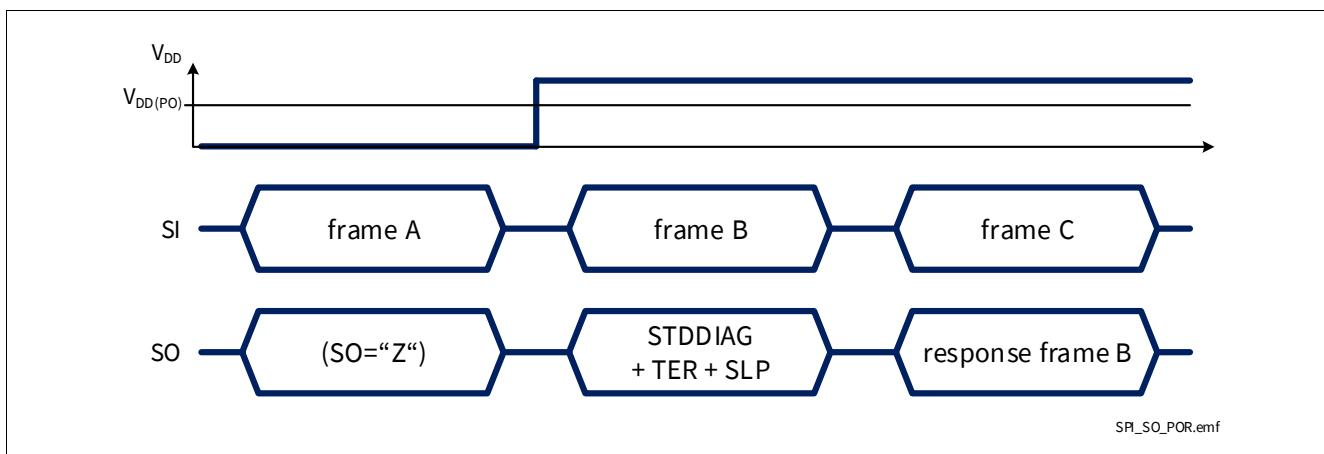

Figure 44 SPI response after coming out of Power-On reset at V_{DD}
- When BTS72220-4ESP digital supply comes out of Power-On reset condition, as shown in Figure 44